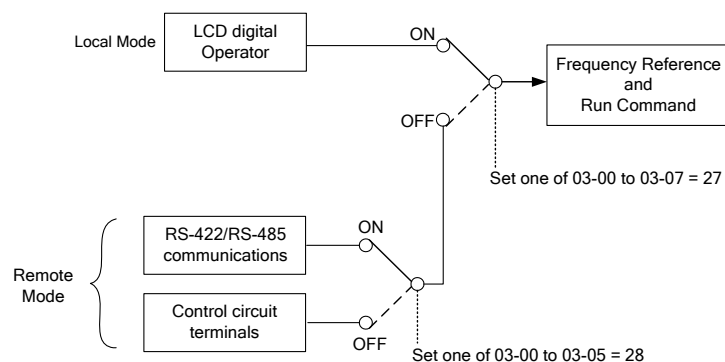

Figure 4.3.23 Remote mode operation selection
- When one of 03-02~03-05=28 (Remote mode selection) · inverter can switch between external terminal source (S1~S6) or communication (RS-485) source. Please refer the figure 4.3.23 ·